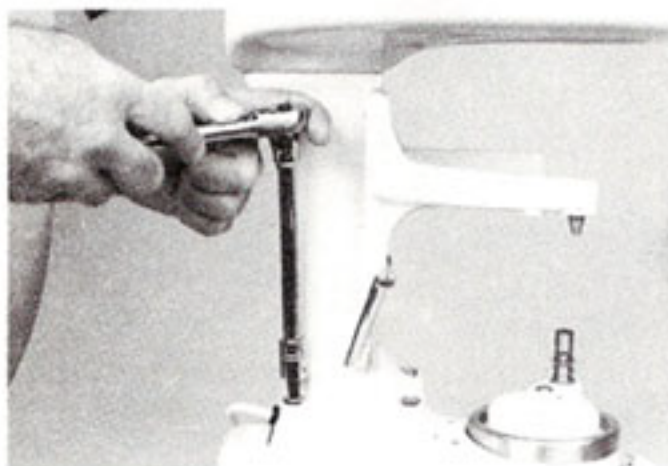
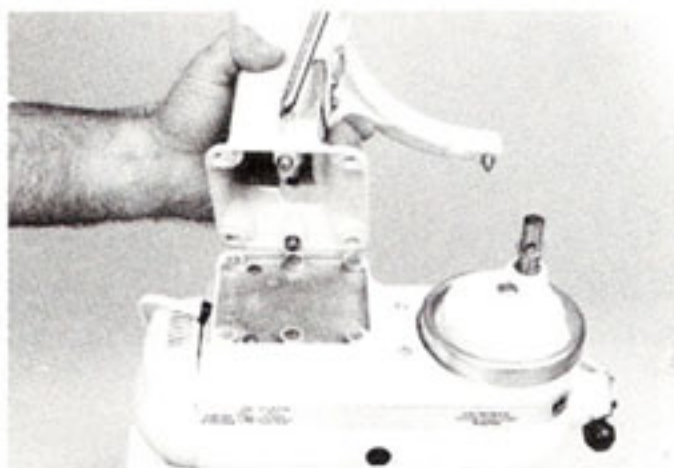

Fig. 86
Fig. 87
C. To replace the bowl support, remove the four  $\frac{5}{16}$ "-18 x  $\frac{3}{4}$ " round head screws (Fig. 86) and lift the gear case and motor housing off the column (Fig. 87).